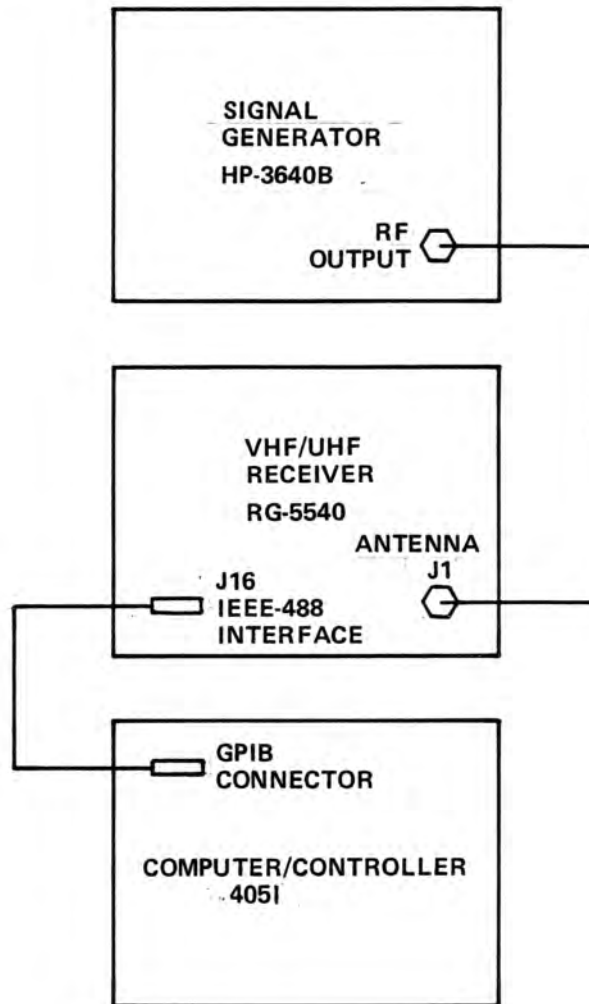

Figure 5-7. Remote Control Set-up
1. Connect the computer controller and signal generator to the Receiver as shown in Figure 5-7.